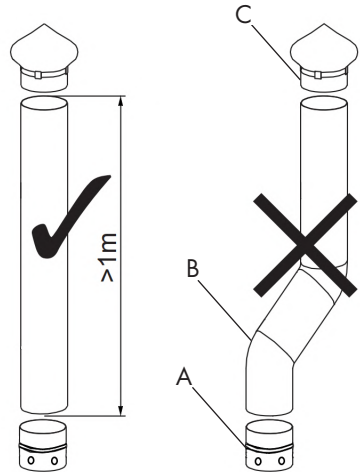

Fig. 9
For outdoor operation or operation in partially enclosed, well-ventilated rooms without a flue pipe, mount a simple chimney adapter on the chimney connection (A), see also Fig. 9